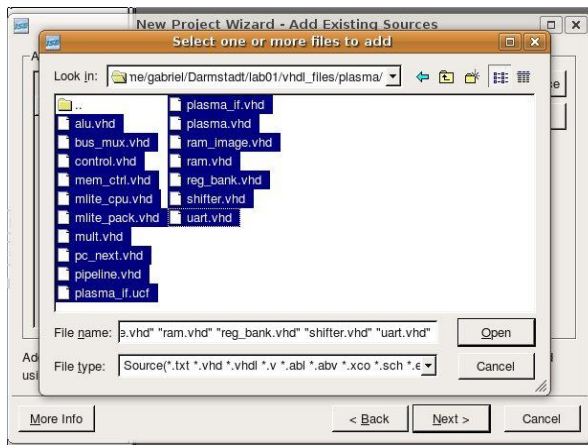

Figure 3 : Adding the VHDL files to the project
4. Add the VHDL files to your project (Figure 3).